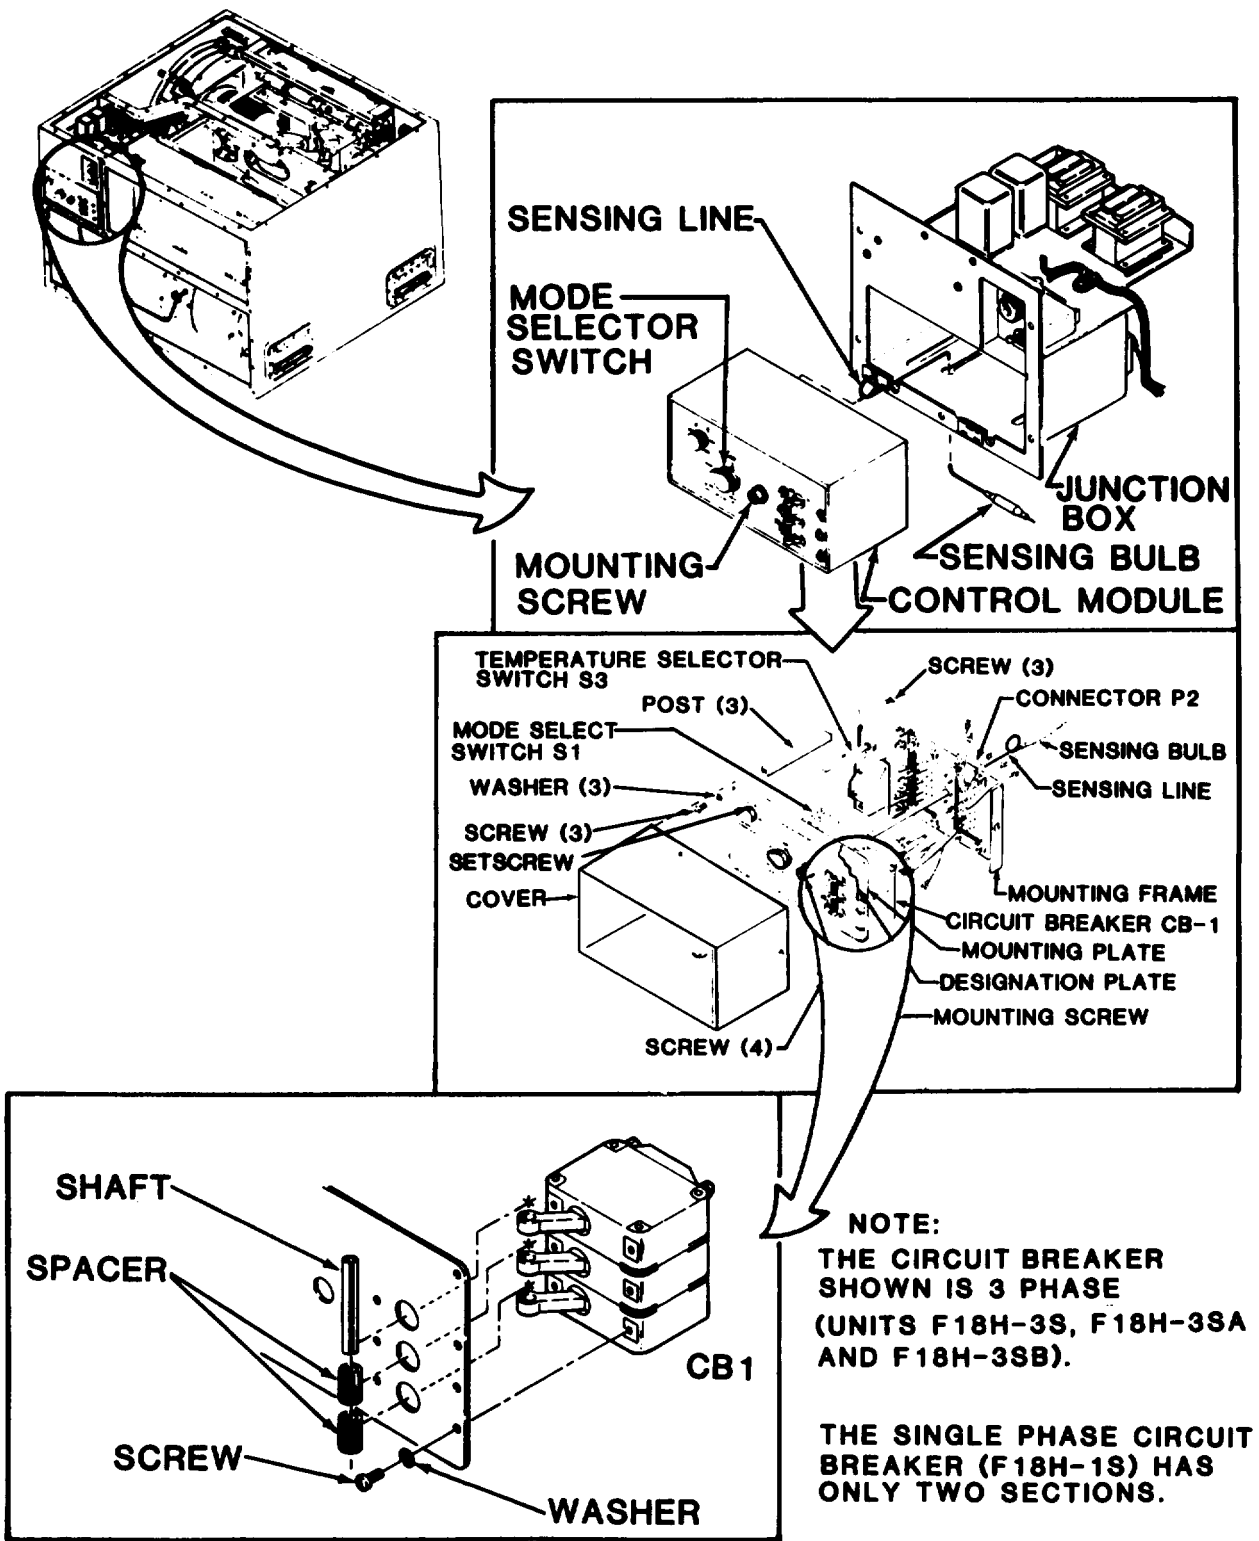

Figure 4-20. COMPR CIRCUIT BKR (Compressor Circuit Breaker) CB1
a. Removal. (See fig. 4-20.)
(1) Disconnect power at power source.
(2) See paragraph 4-21a and remove control module.
(3) See figure 4-20 and remove four screws and pull cover off.
(4) Loosen setscrew in the TEMPERATURE SELECTOR knob. Remove knob.
(5) Remove the three screws from the posts and slip mounting frame off.
(6) Tag and disconnect wires from COMPR CIRCUIT BKR.
(7) Remove pin and spacers from circuit breaker toggles.
(8) Remove screws and washers and pull circuit breaker from the panel.